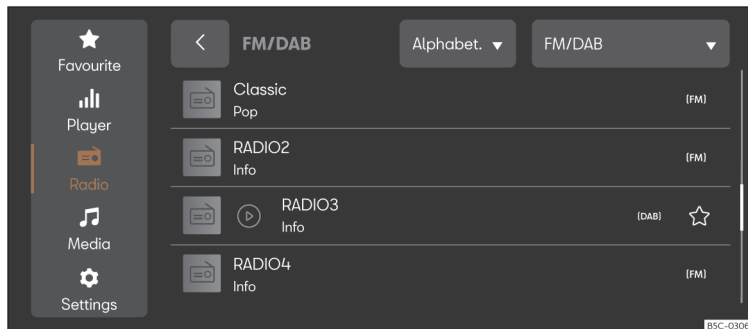

Fig. 181 Schematic representation: Radio view.
- Press **MENU** > >>> **Fig. 181**.